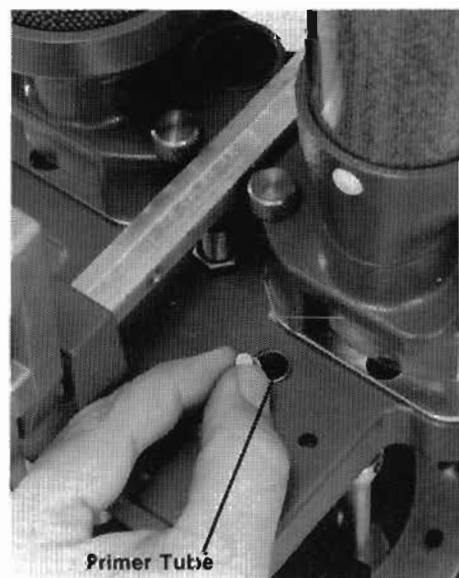

Fig. 21
**Figure 21** - Leaving the handle down, place a new primer in the brass primer tube and release. The primer will fall to the bottom of the tube and in position on the raised shell platen.